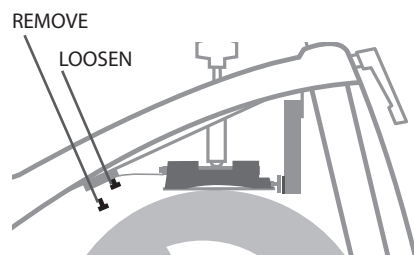

Figure 22
- 3: Remove one of the screws holding the brake unit to the frame and loosen the other by using an 8mm wrench, see figure 22.